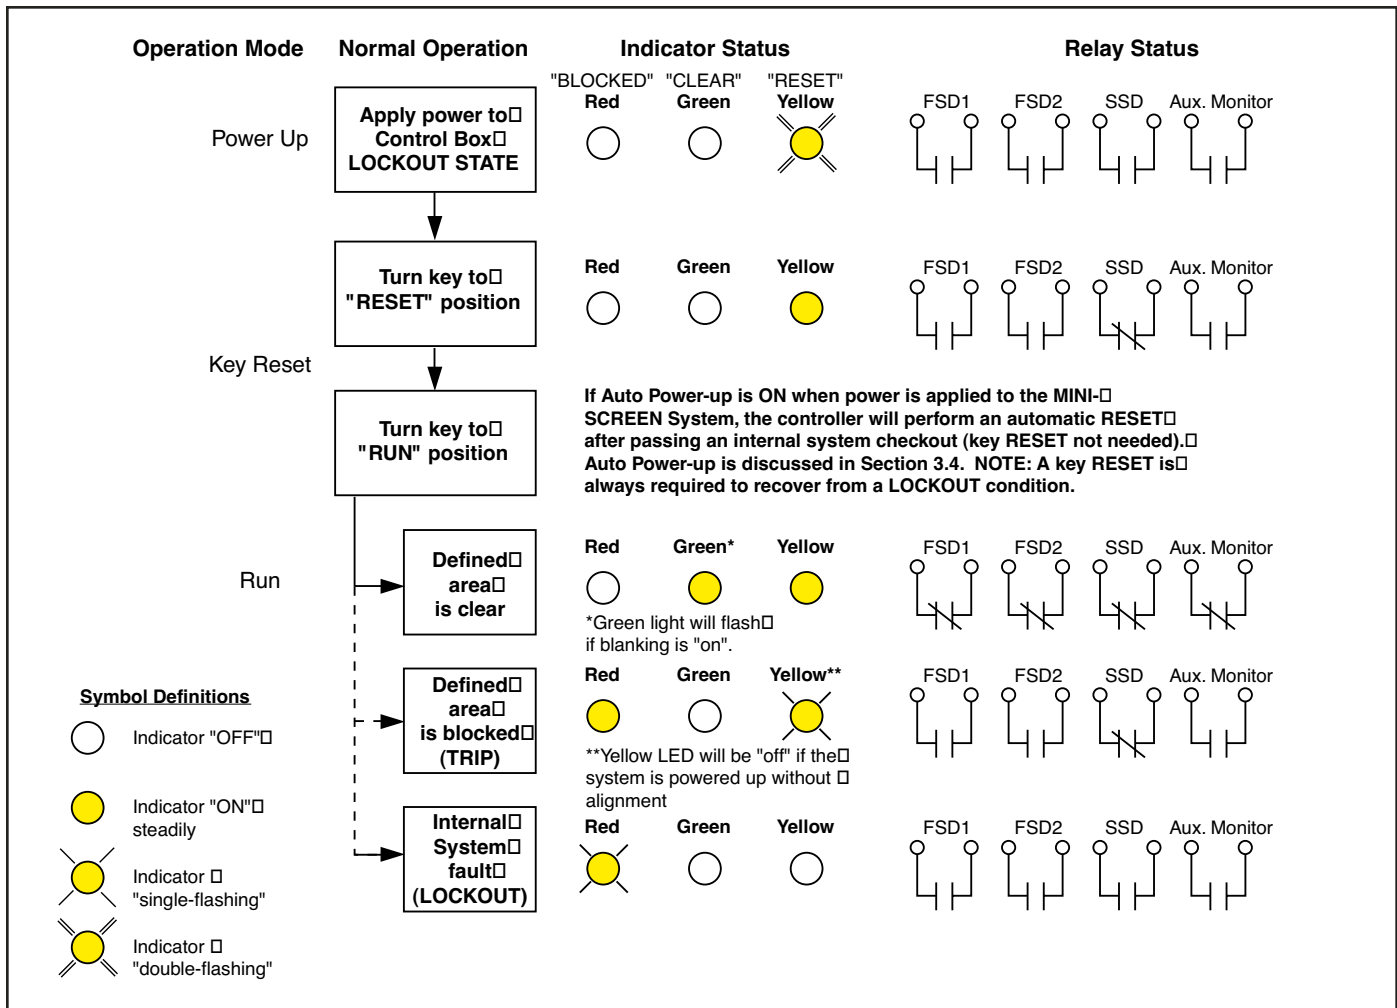

Figure 5. Operating Status Conditions
- 1) Upon "power-up" of the MINI-SCREEN System (unless Auto Power-up is "on"; see Figure 5, page 10),
- 2) If ac power to the MINI-SCREEN System is interrupted (unless Auto Power-up is "on"; see Figure 5),
A lockout condition resulting from an internal system fault is indicated by a flashing red status indicator LED on the control box and the receiver unit. The green and yellow LEDs will be "off". See Fig. 5, page 10.
YELLOW (only) "on" and double-flashing: a *double-flashing* YELLOW LED indicates a power-up or power interrupt lockout condition. *These lockouts occur in the normal course of powering up the MINI-SCREEN System or upon an interruption of power to the System* (unless Auto Power-up is "on"; see Fig. 5). SSD, FSD1, FSD2, and Auxiliary Monitor contacts are open (de-energized).